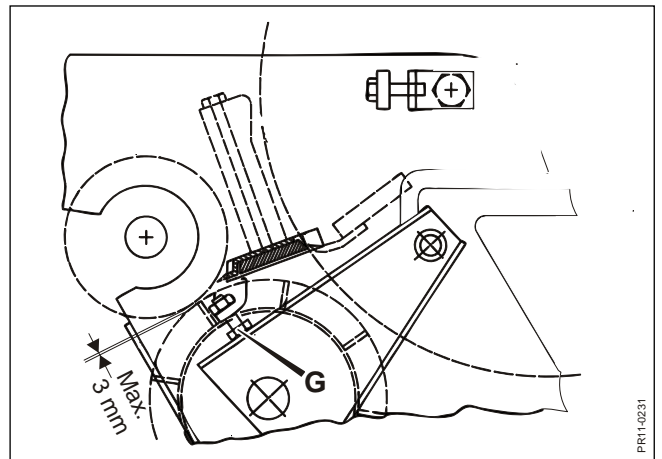

Fig. 4-4
**Fig. 4-4** The distance between the smooth roller and the serrated roller should be max. 3 mm. Adjustment is made with the bolts **G** at both sides of the rotor housing.